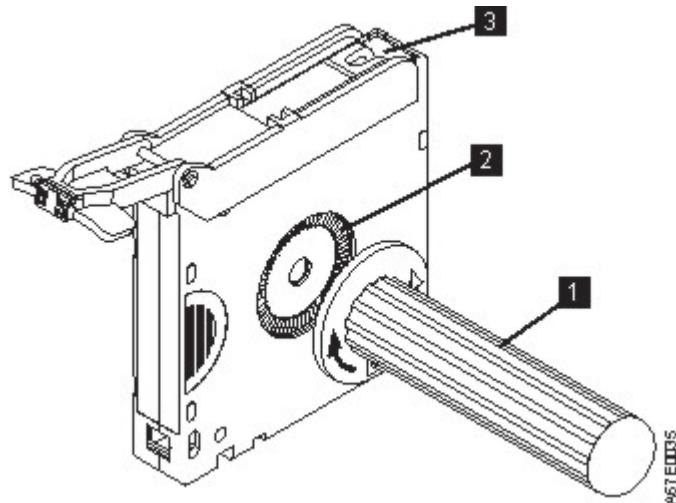

Figure 107. Winding the tape out of the cartridge
2. To find the end of the tape inside the cartridge, attach the cartridge manual rewind tool (1 in Figure 107 on page 227) to the cartridge's hub 2 by fitting the tool's teeth between the teeth of the hub. Turn the tool clockwise until you see the end of the tape inside the cartridge. Then, slowly turn the rewind tool counterclockwise to bring the tape edge toward the cartridge door 3.